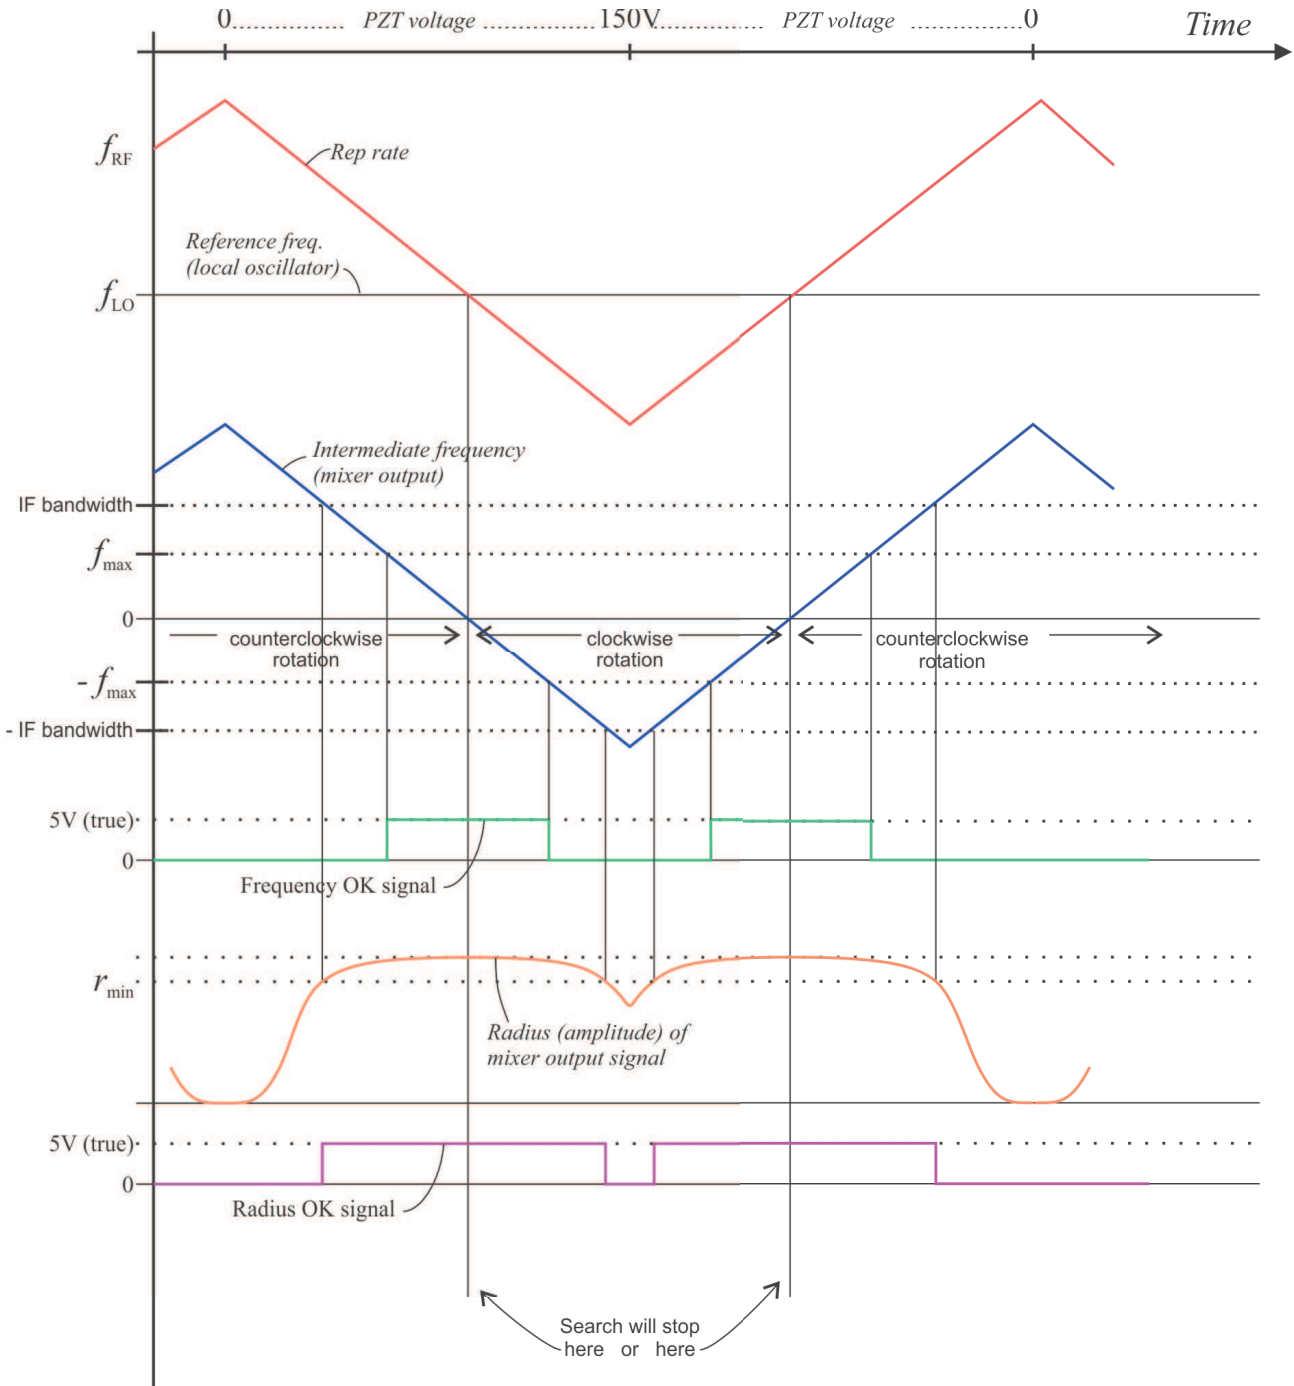

Figure 26: Timing and condition diagram for the automatic search scan.
signals with figure 25 and turn regulator on (1): the regulator output will be scanned slowly up or down (2) as long as the radius of the intermediate signal is below the min radius threshold (3). If it rises above AND the intermediate frequency is below a user-defined maximum "MaxFrequenc", the search scan is stopped and the PID is activated to lock the laser at the next zero-crossing of the error signal (4). Details of the signals and conditions can be seen in figure 26.